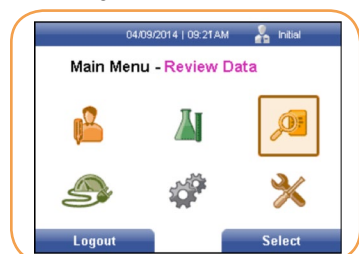

FIGURE 92
1. Using the [→] or [←] keys, select the Review Data icon from the Main Menu screen (Figure 92).